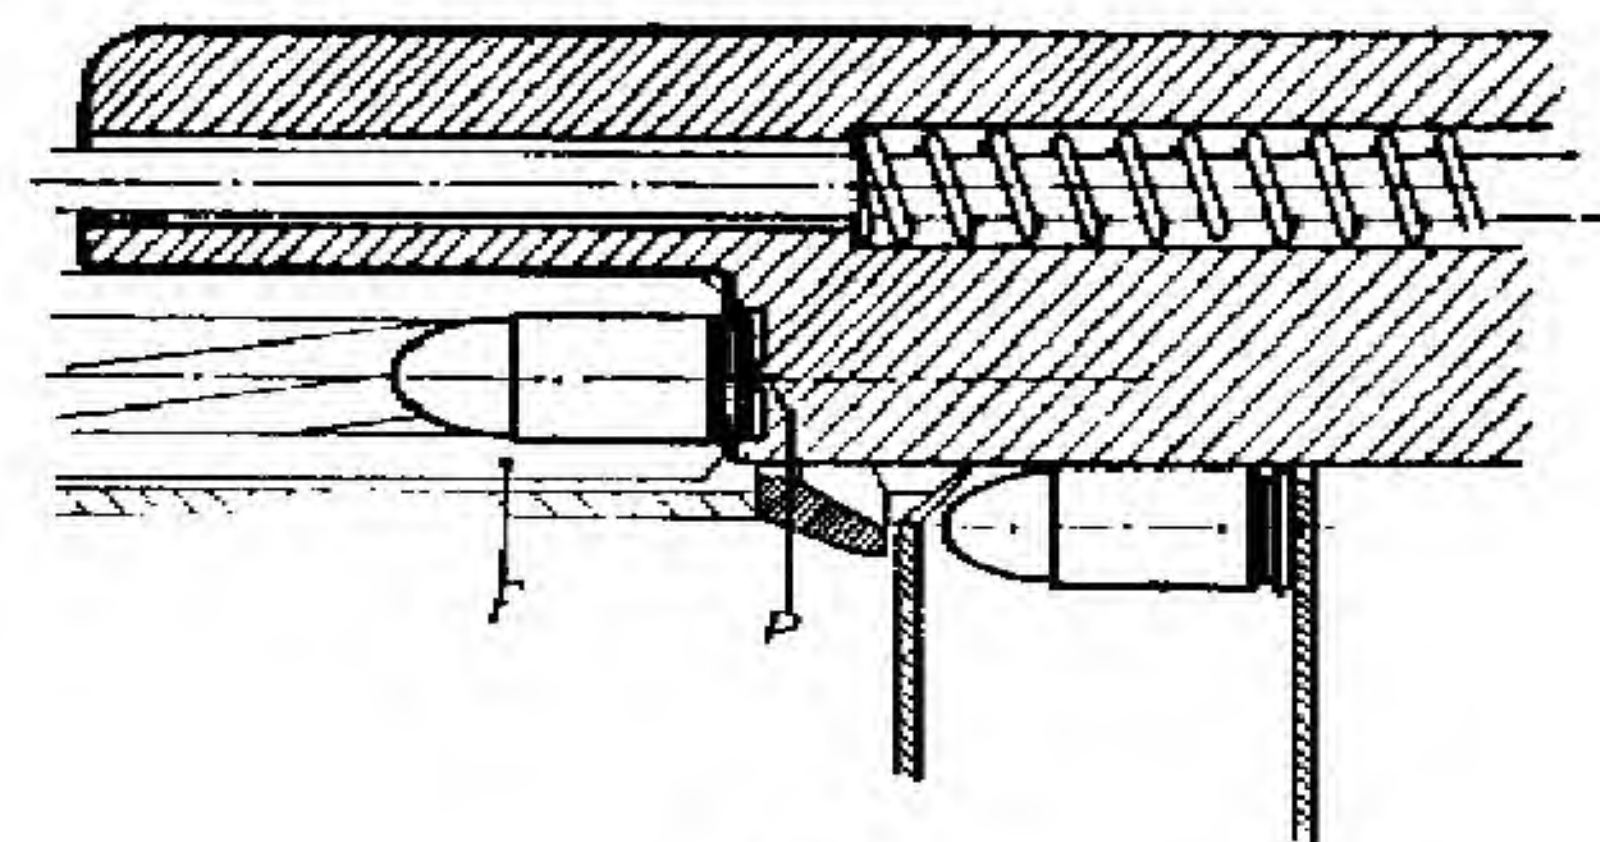

Fig. 7.
The breech-block (C) continues its thrust on the base of the round and chambers it (fig. 7).